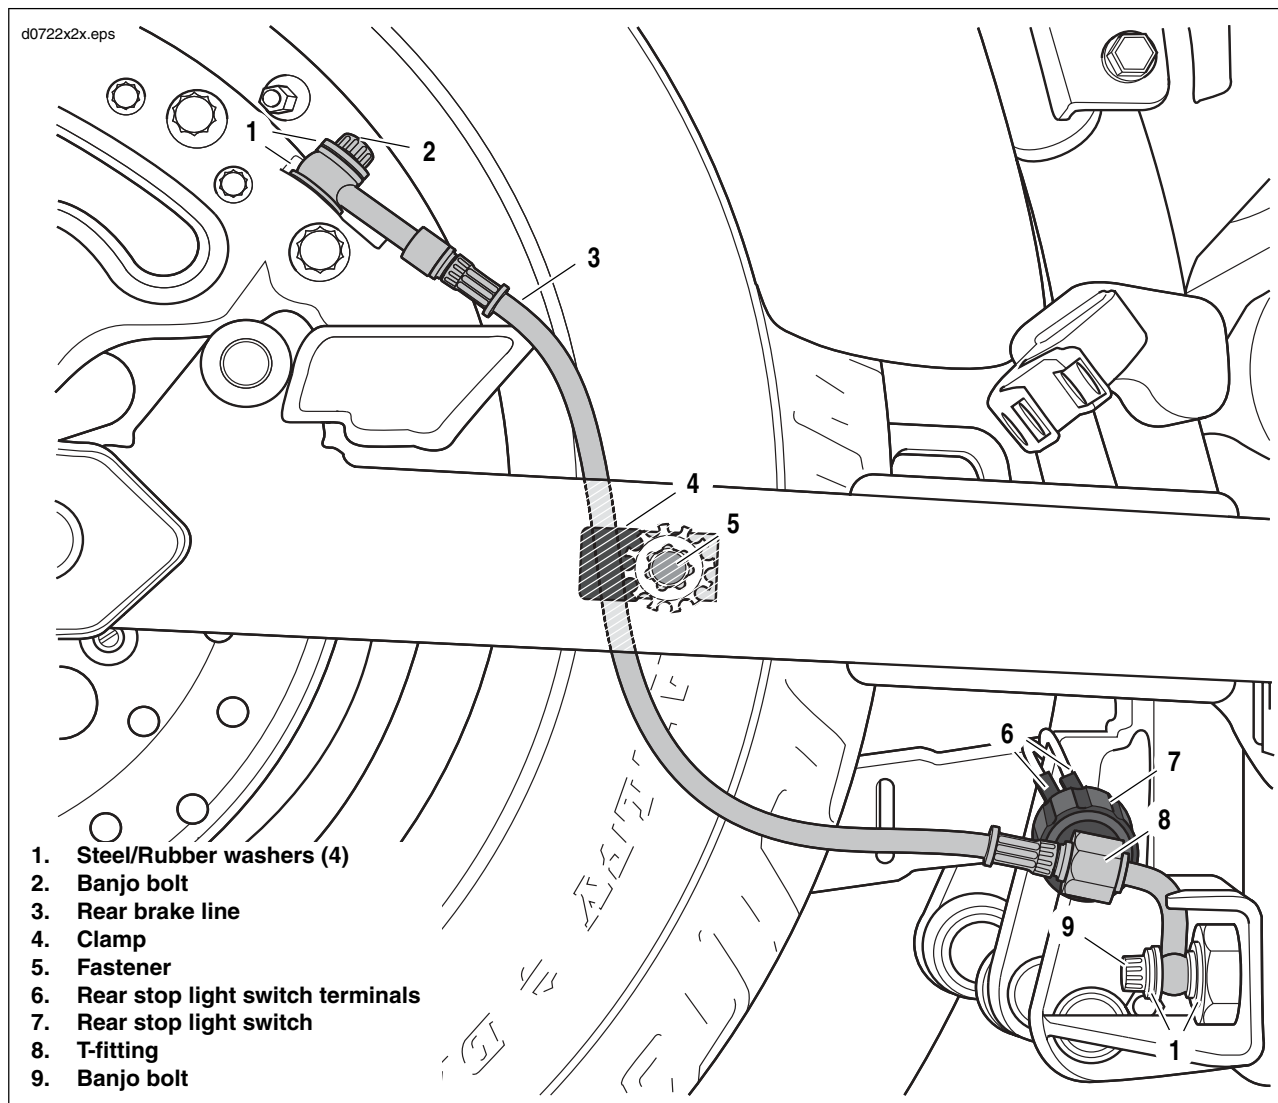

Figure 1. Rear Brake Line
1. See Figure 1. Remove two terminals (6) from rear stop light switch (7).
2. Remove the master cylinder banjo bolt (9) and both steel/rubber washers (1) to detach rear brake line (3) from master cylinder. Discard washers.
3. Remove fastener (5), clamp (4) and lockwasher securing rear brake line to rear fork.
4. Remove the banjo bolt (2) and both steel/rubber washers (1) to detach rear brake line from brake caliper. Discard washers.
5. Using a 1-1/16 in. open end wrench, remove stop light switch from T-fitting (8).